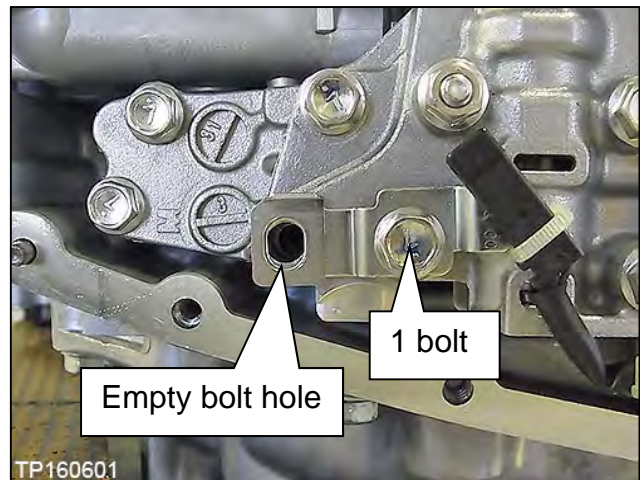

Figure 158
119. Install the CVT fluid temperature sensor bracket to the control valve with one (1) bolt (Figure 158).